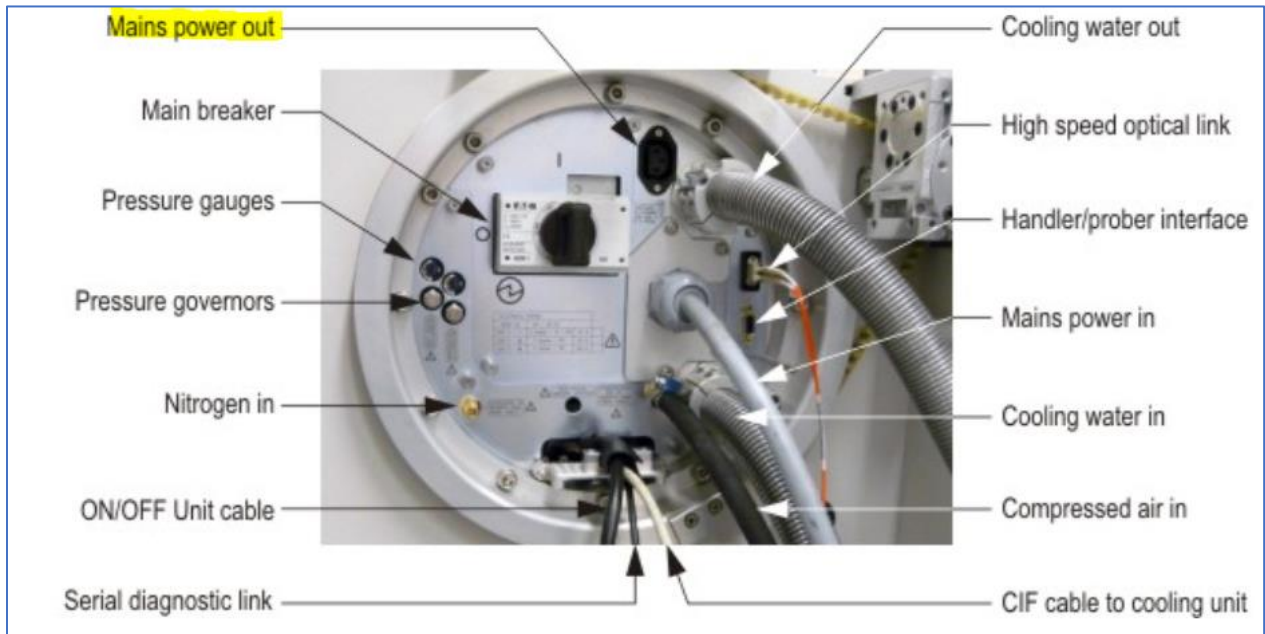

Figure 8: V93000 CTH power switched outlet
- c. If V93000 is CTH, then refer to Figure 8: V93000 CTH power switched outlet.